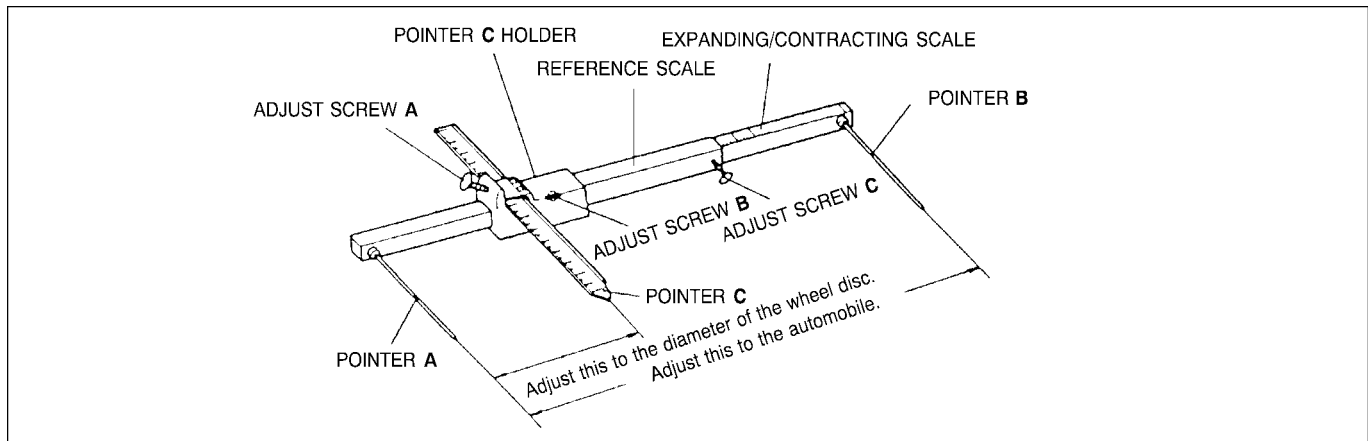

Fig. 5-1
- If there are any deviations, use a tram tracking gauge and measure parts of the body.(Below Fig. 5-1)